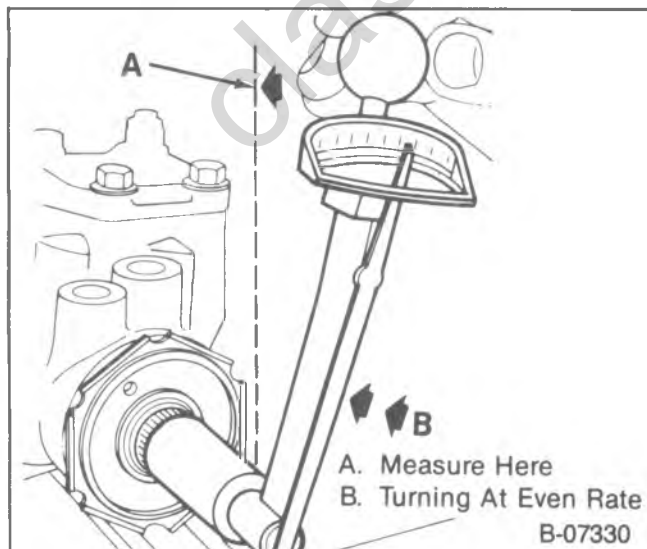

Figure 17—Checking Rotational Torque
7. Use a inch-pound torque wrench and a 12-point deep socket to measure the required torque to turn the stub shaft (4). Take the reading with the handle of the torque wrench near the vertical position. Turn the stub shaft to the right stop and then back (counterclockwise) $\frac{1}{4}$ turn at an even rate (figure 17). Record the torque reading.
8. The torque required to turn the stub shaft should be 0.45-1.13 N·m (4-10 in. lbs.). If the reading is above or below the specified torque; the adjuster plug may not be tightened properly or may have turned when the adjuster plug nut was tightened, or the thrust bearings and races (22) may be damaged.